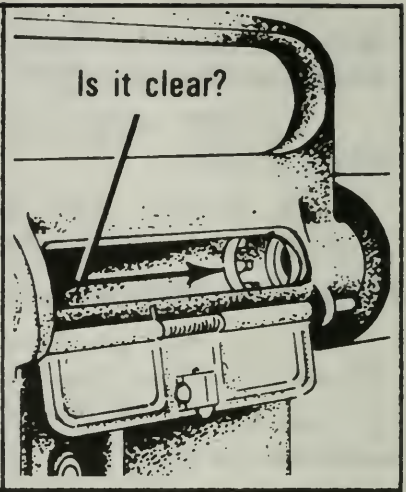

Figure 95. Inspecting the chamber.
d. Look into the chamber to ensure that it is clear (Figure 95).